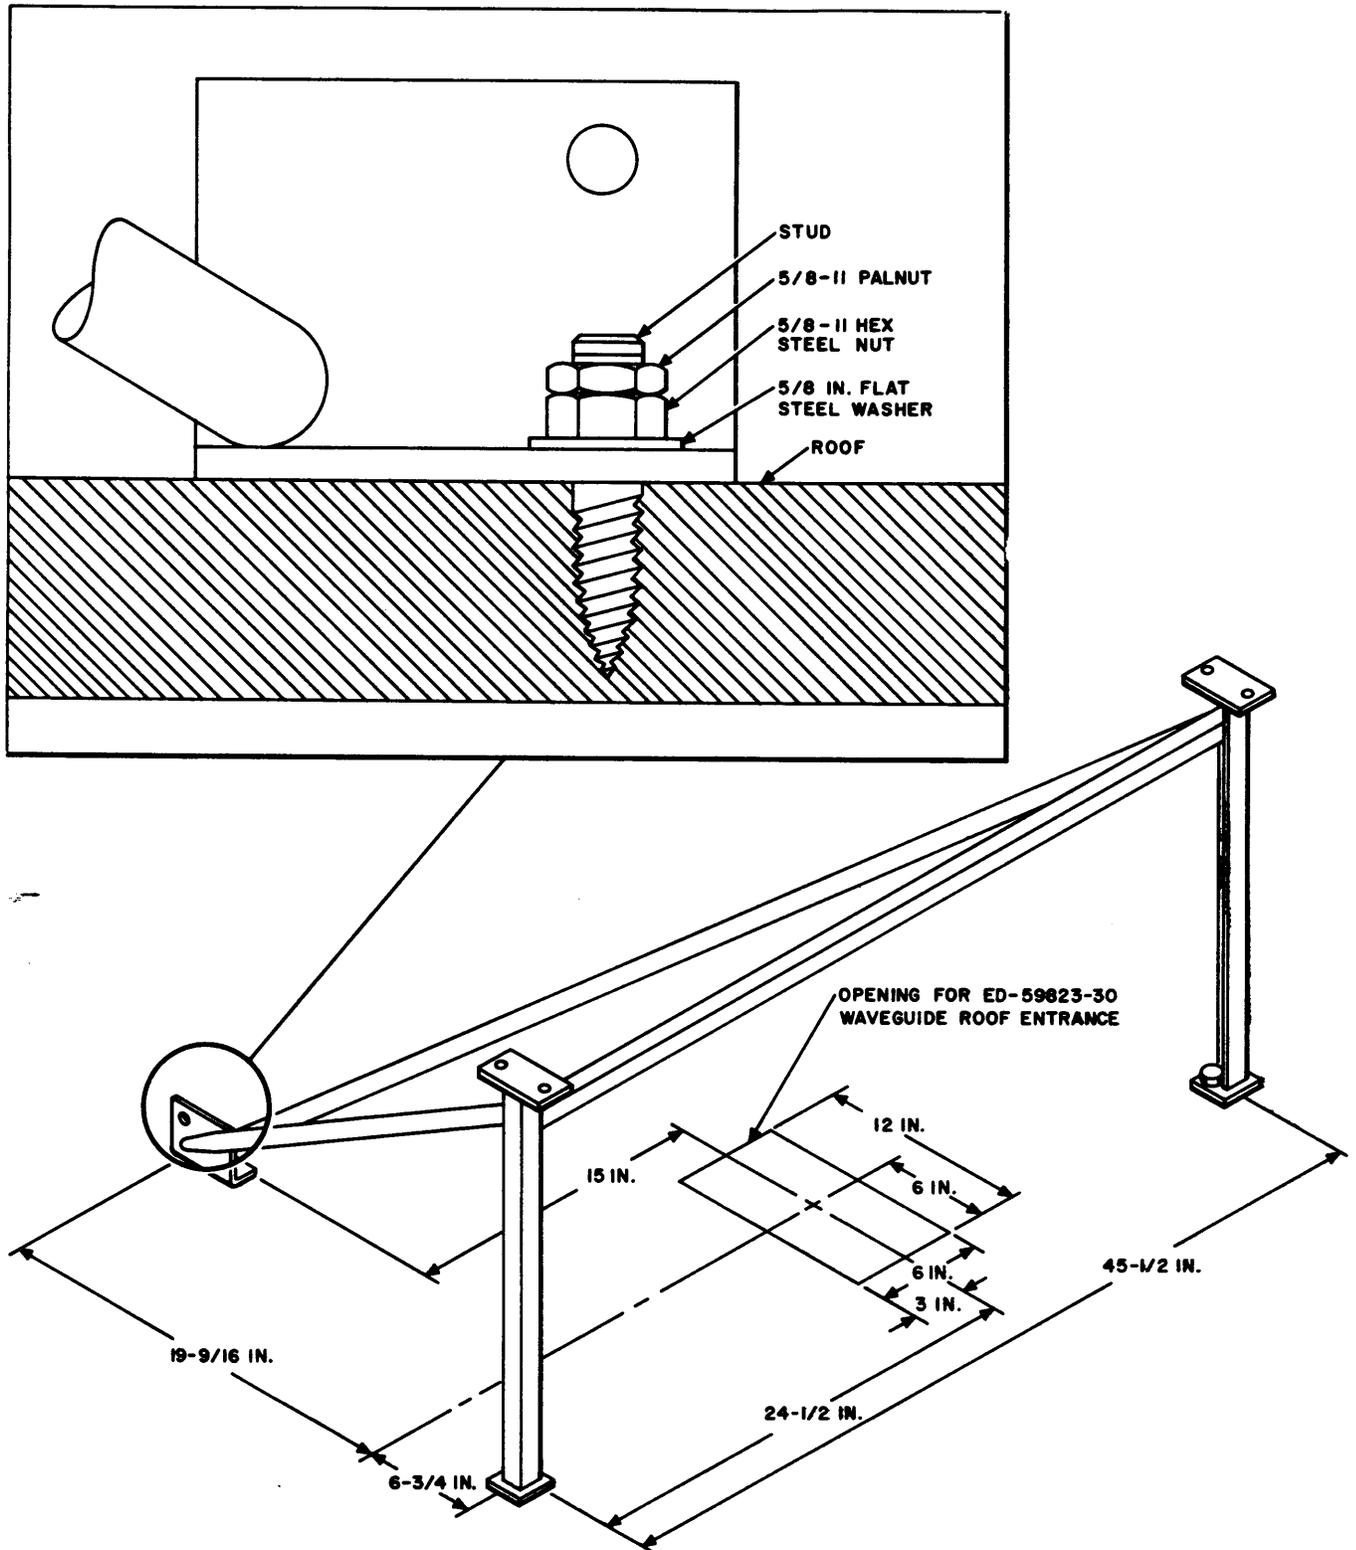

Fig. 15—P-44R911 Antenna Support Assembly, Installation Procedure
the antenna utilizes a P-44R911 antenna support Assembly, shown in Fig. 15.
5.53 The method of attaching the P-44R911 antenna support assembly, ED-59823-30 roof entrance assembly, and the azimuth turnbuckle shall be job engineered. With the aid of Fig. 15, local supervision shall plan and expedite the preliminary task of preparing the roof for the installation of the antenna support assembly and roof entrance assembly. The following procedures should be used where practicable:
(a) To prevent water seepage, do not use through bolts in the roof. Instead, studs (threaded 5/8-11) should be placed into the roof and cemented in place. Allow sufficient stud projection above roof for attachment of antenna support assembly flange, washer, hex nut, and Palnut. (See Fig. 15.)
5.54 After the necessary preparations have been completed on the roof, place the mounting flanges of the antenna support assembly over the mounting studs in the roof. Secure with four 5/8 flat washers, 5/8-11 hex nuts, and 5/8 Palnuts as shown in Fig. 15.